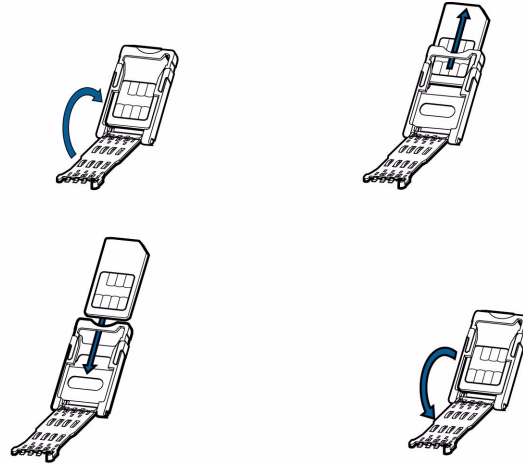

Figure 12 Insert MSAM Card into Cardholder
- b Open the cardholder by pivoting the cover on its hinge away from the connector base (Figure 12).
The cardholder has a set of contacts and a notch on one corner to ensure the MSAM card is positioned correctly when the cover is closed. The MSAM card has a notch on one corner to ensure it is correctly positioned in the cardholder. Before inserting the MSAM card, position it as shown in Figure 12.
- 6 Close the cover (Figure 12).